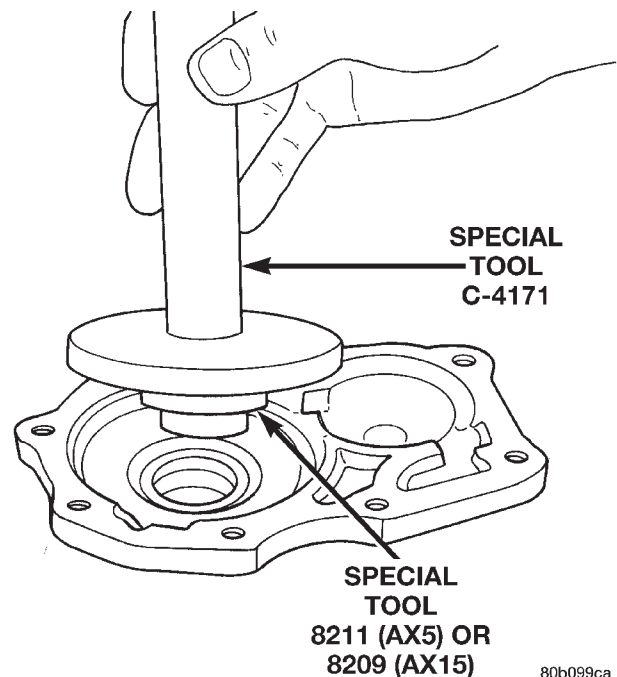

Fig. 11 Install Front Bearing Retainer Seal
- (1) Using Tool Handle C-4171 and Seal Installer 8211, install new seal in to the front bearing retainer (Fig. 11).